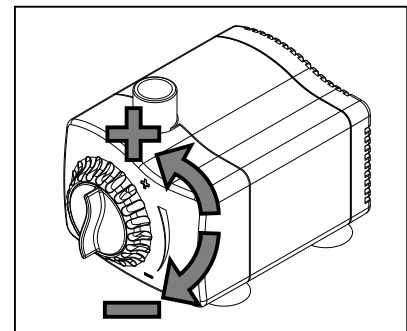

Fig. 4
4. Adjust the flow control to the preferred setting. Fig. 4